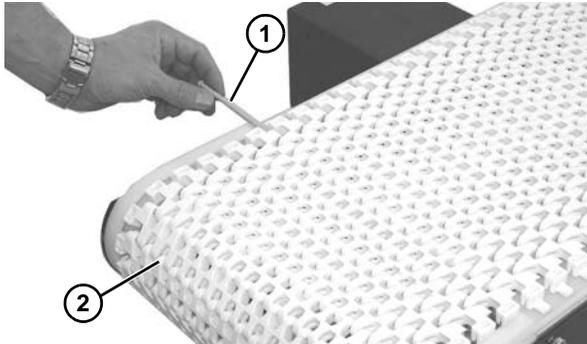

Figure 26
1. Use a punch and hammer to push the belt rod (Figure 26, item 1) out by striking the rod end opposite the retaining head.
2. Slide the old belt (Figure 26, item 2) off the conveyor frame.